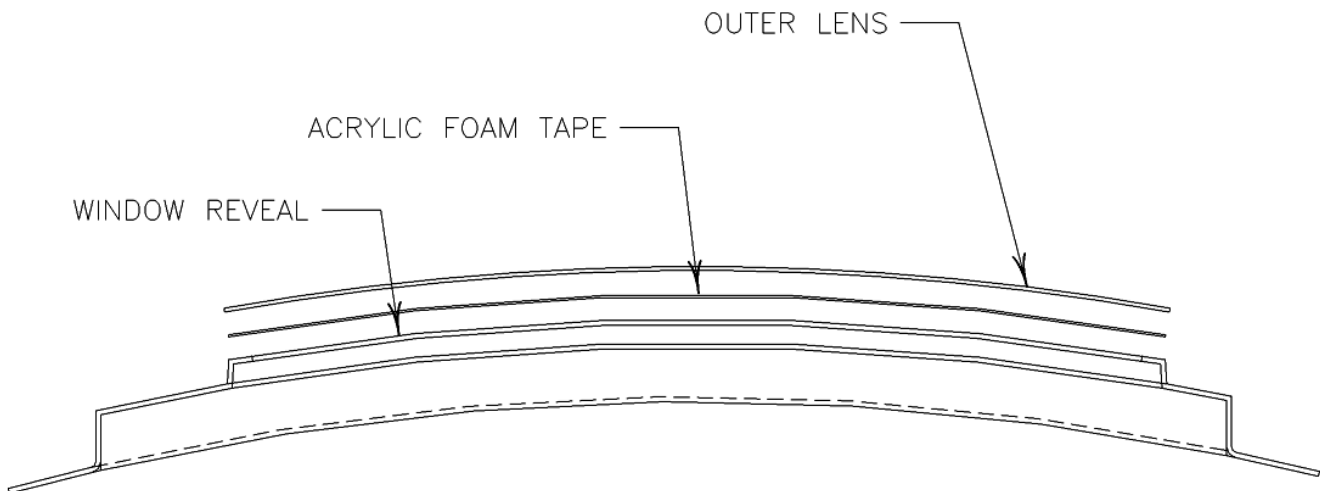

FIGURE 4/ GRAPHIC 25-22-10-991-004
3. Replacement procedure for outer lens (See FIGURE 4/ GRAPHIC 25-22-10-991-004)